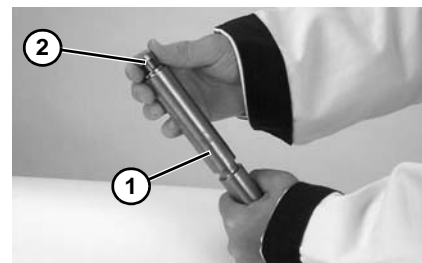

Figure 68
2. Inspect spindle (**Figure 68, item 1**). Replace if worn.
3. Slide bearing (**Figure 68, item 2**) onto spindle.